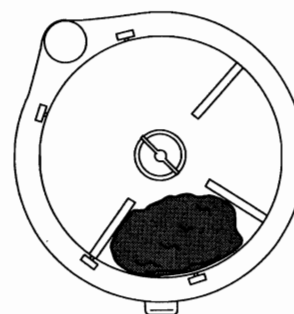

Fig. 6
- Medium size oval or irregular pieces like peppers, melons or potatoes fit in intermediate size compartments (Fig. 6).